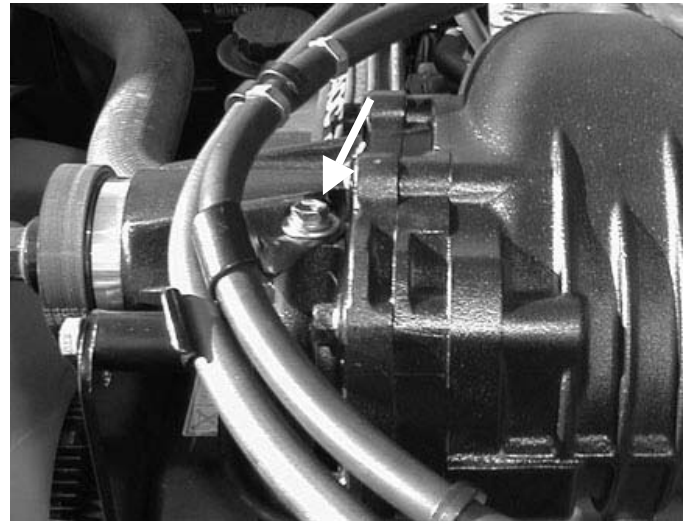

Figure 21
10. Replace the throttle cable/evaporative canister hose bracket to the supercharger (Figure 21).